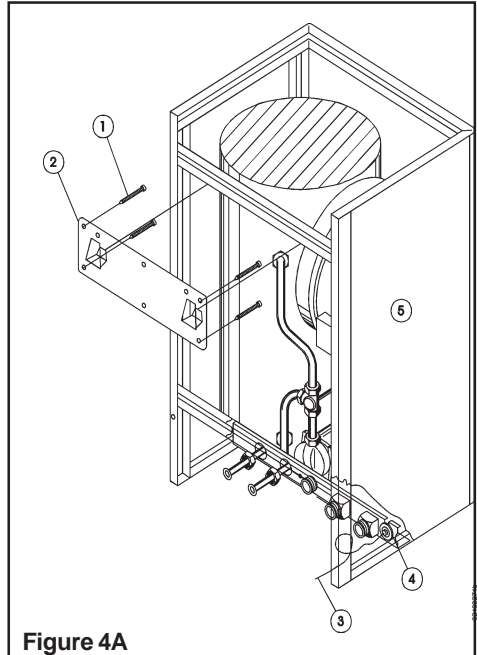

Figure 4A
2) Screw the bracket to the wall. The screws **MUST** be screwed in correspondence of the 16" vertical studs (see figures 4A and 5A)